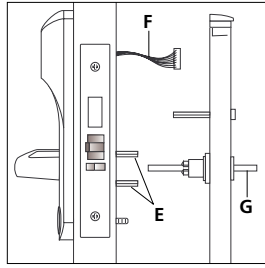

Figure 11
- 1) Insert the aligning studs (E), on the outside housing, through the holes in the mortise lock. Thread the reader cable (F) through the reader cable hole, and mount the housing on the door (see Figure 11).
- 5) Using the inside lever to turn the inside spindle (G), retract the latch bolt. This will ensure the latch hub drive is properly engaged with the mortise latch hub (see Figure 11).